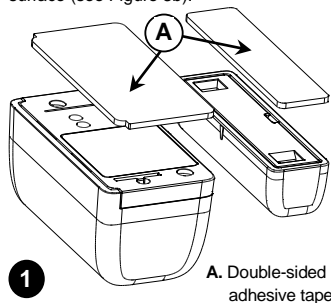

Fig. 3a – Attaching the Adhesive Tape
1. Peel away the release liners from the two strips of double-sided adhesive tape and attach to the device and magnet (see Figure 3a).